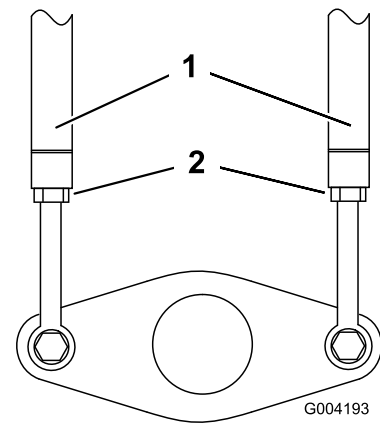

Figure 72
3. Loosen the jam nuts on the traction rods, under the control panel (Figure 72).